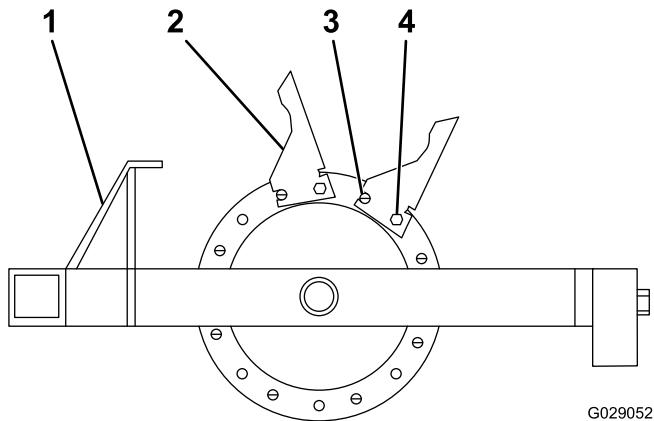

Figure 4
1. Start at the outside casting and install the tines as shown in Figure 4.
2. Install all 8 tines on the casting, using a roll pin and 1/2 inch x 1-3/4 inch bolts. making sure the roll pin is in the front position (Figure 4).